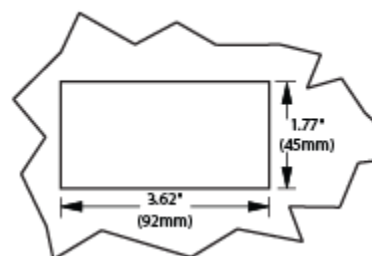

Figure 1
1. Make a cutout on any panel, with a thickness of 1/16 inch (1.5mm) to 3/8 inch (9.5mm). Refer to FIG 1